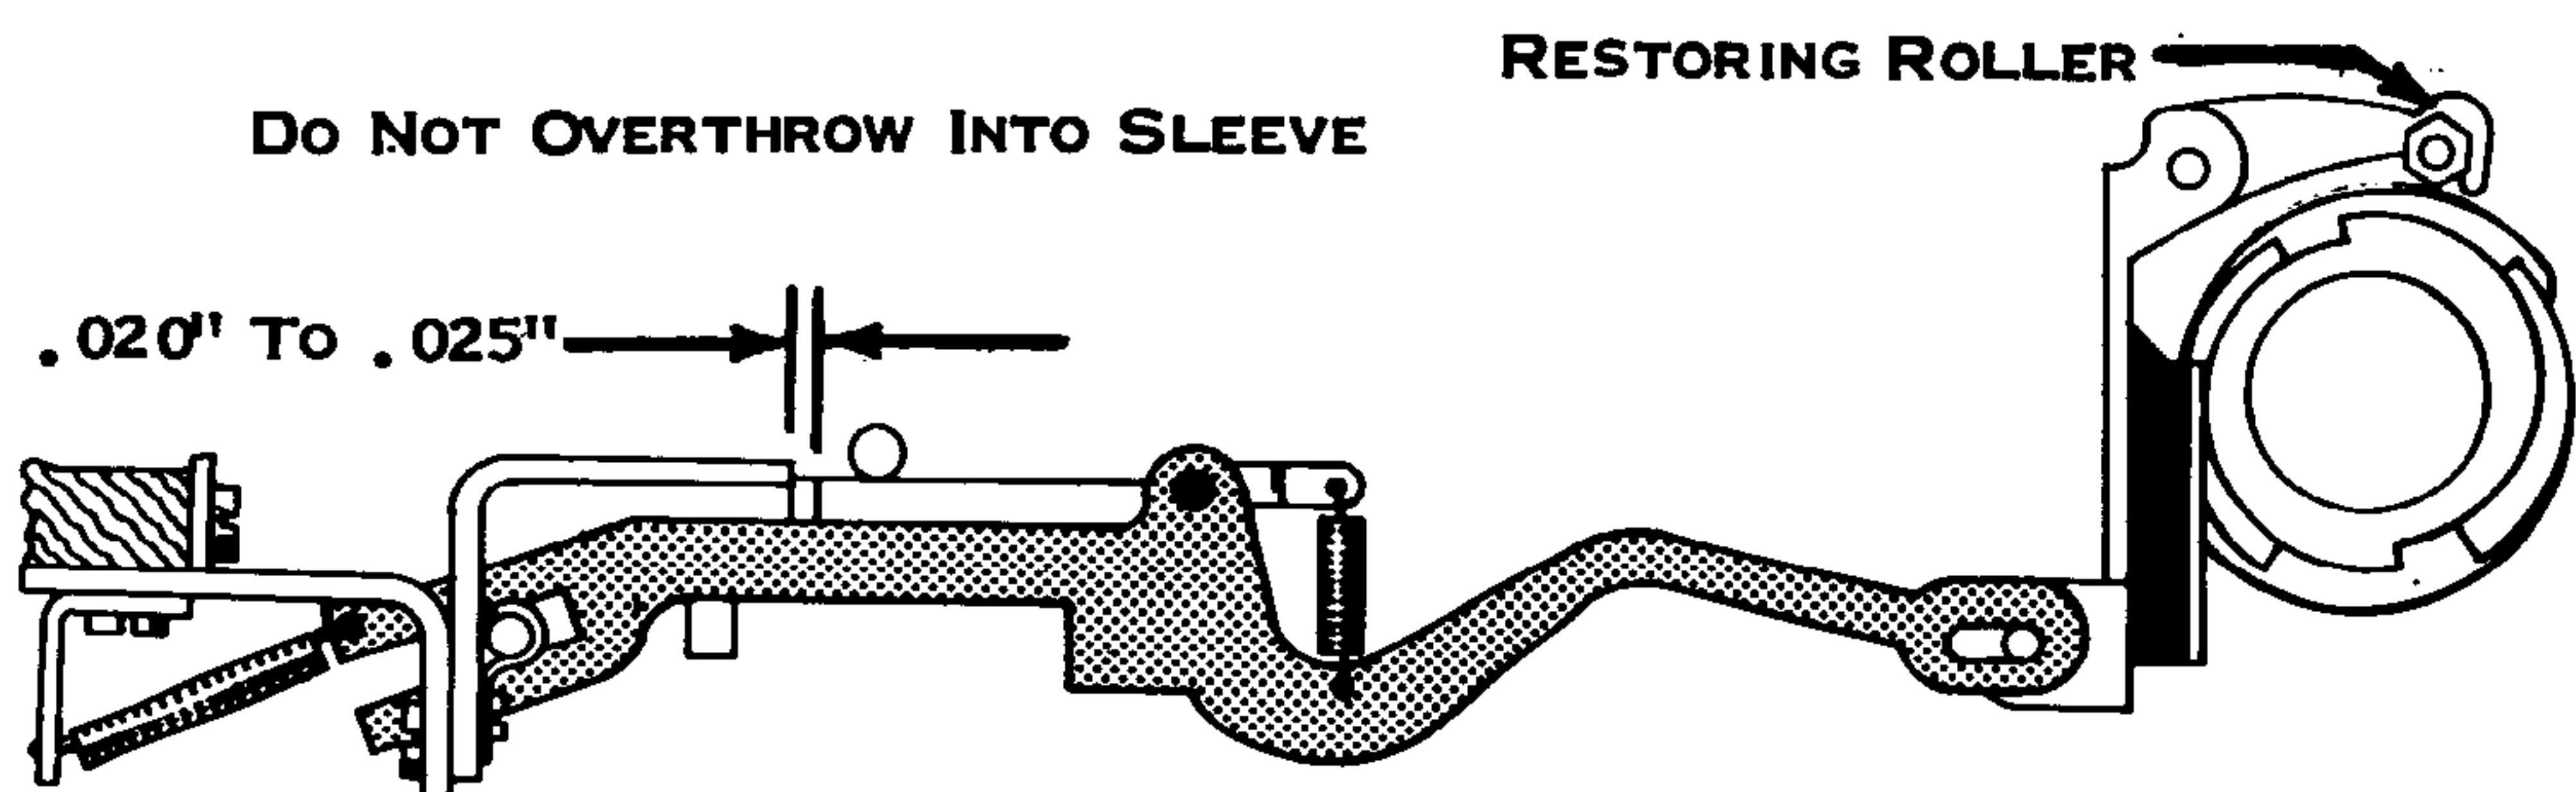

Figure 10. Cycle Clutch Latch Restoring, New Style
- a. New Style - Position the restoring roller so that the latch pawl overthrows the keeper by  $.020''$  to  $.025''$  with the restoring cam on its high point. The overthrow must not force the latch against the sleeve (Fig. 10).